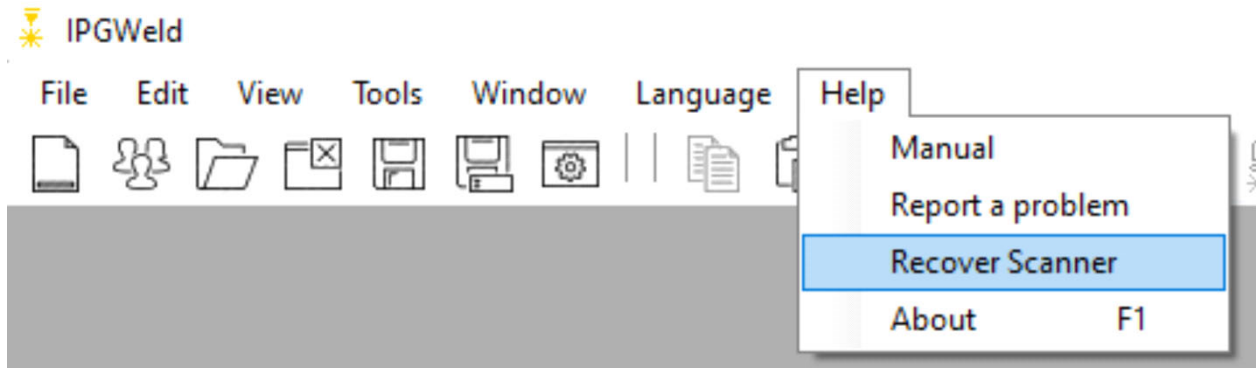

Figure 381: Select Recover Scanner
2. In IPGWeld, navigate to the **Help** menu and select **Recover Scanner**, as seen in Figure 381 (below).